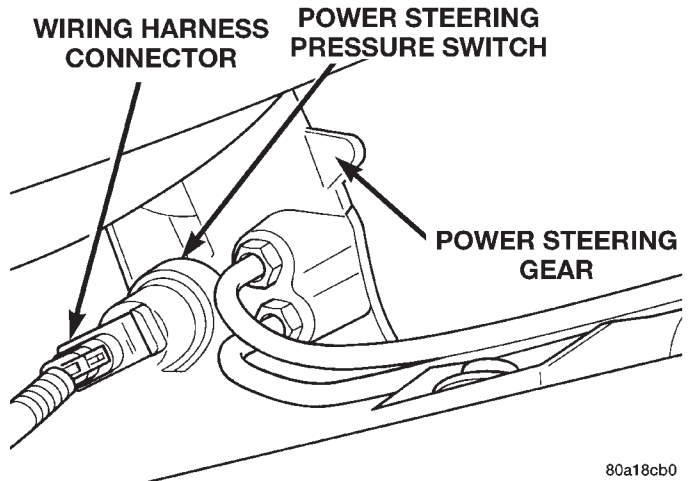

Fig. 6 Power Steering Pressure Switch Location On Steering Gear
- (1) Disconnect the negative cable from the battery. Be sure cable is isolated from negative post on battery.
- (2) Raise vehicle.
- (3) Locate power steering pressure switch (Fig. 6) on back side of power steering gear.
- (4) Remove the wiring harness connector (Fig. 6) from the power steering pressure switch.
- (5) Using a crow foot and long extension, remove power steering pressure switch, from power steering gear.